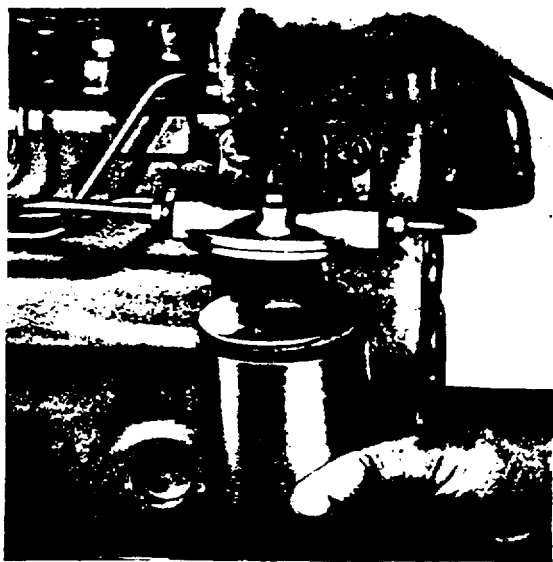

Fig. N.2.
3. Take the filter bowl and element assembly away from the filter cover (see Fig. N.2).